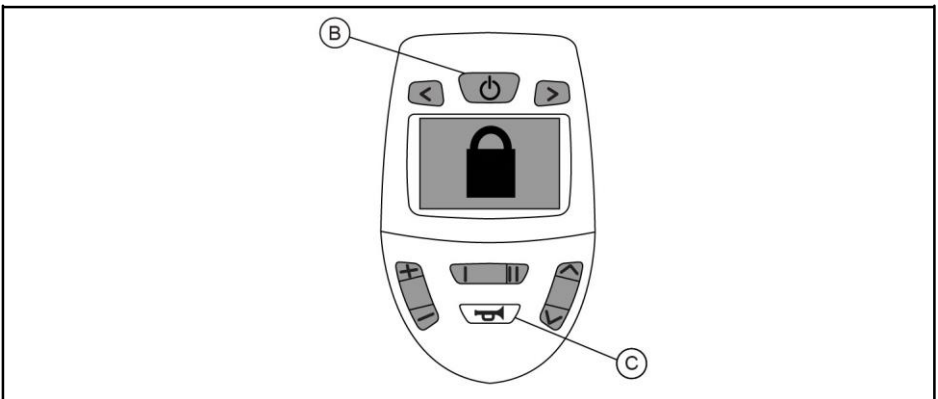

Figure 6.1
- Put the controller on (B in fig 6.1).
- Push >4 sec the on/off button (B in fig 6.1)
- Put the controller on (B in fig 6.1)
- Push 2x the claxon (C in fig 6.1)